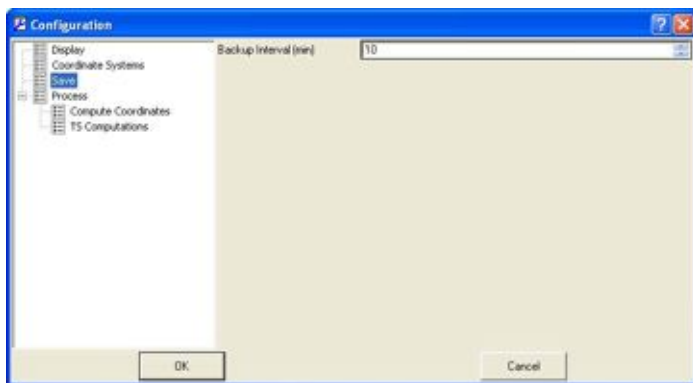

Figure 3-15. Select File Backup Properties
4. In the *Save* pane, select the interval in minutes for saving a backup copy of the current file (Figure 3-15). Click **Ok** to save and exit. Topcon Link uses the following rules for saving/deleting backup copies: